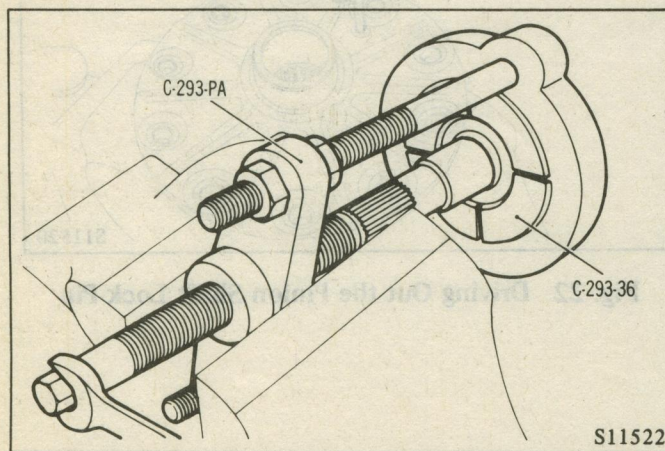

Fig. 24 Removing the Drive Pinion Bearing (Rear)
(2) Tap the drive pinion shaft end with a plastic hammer or a wheel puller and force out the drive pinion with the adjusting shim, drive pinion bearing (rear) inner race, drive pinion spacer and the preload adjusting shim still installed on the drive pinion shaft.
(3) Using special tools (C-293-PA and C-293-36) remove the rear bearing inner race from the drive pinion shaft. Pull off the drive pinion height adjusting shim at the same time. (Fig. 24)